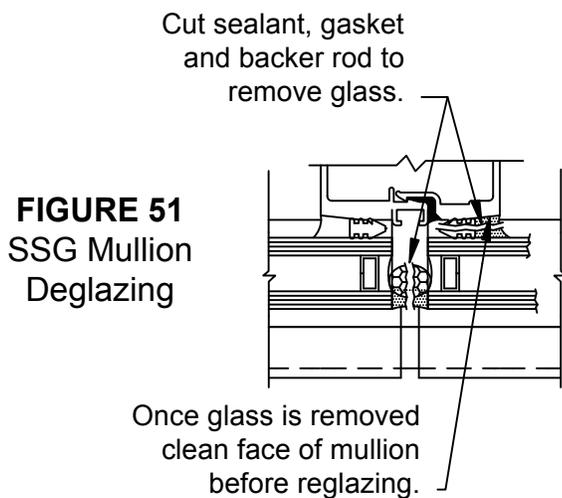

FIGURE 51
- R.8 Vertical structural silicone joints must be cut to remove broken lite of glass. SEE FIGURE 51,page 42.